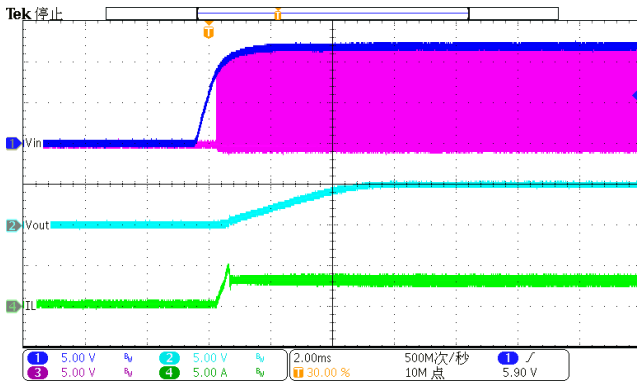

Figure 10. Power up ( $I_{LOAD}=3A$ )
The SCT2331D features external programmable output voltage by using a resistor divider network R1 and R2 as shown in the typical application circuit Figure10. Use equation (7) to calculate the resistor divider values.